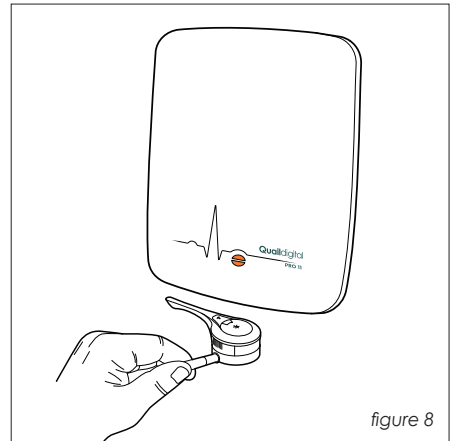

figure 8
- To register a headset to the base, take one headset at a time from the charger and hold the outside face of the headset up to the underside of the base. (figure 8)